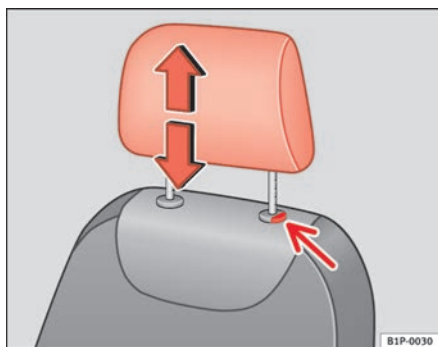

Fig. 89 Adjusting and removing the head restraints
- Press the button ⇒ fig. 89 (arrow).